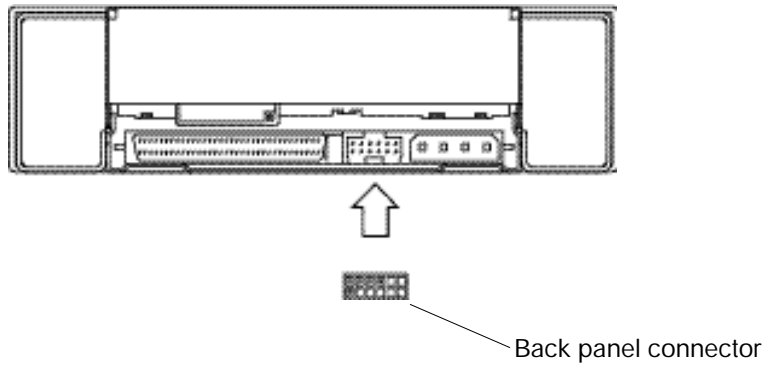

Figure 5 Location of SCSI Address Jumpers
1. Connect the SCSI ID cable from the target ID switch on the interior back panel of the enclosure to the ID cable on the tape drive (Figure 5).